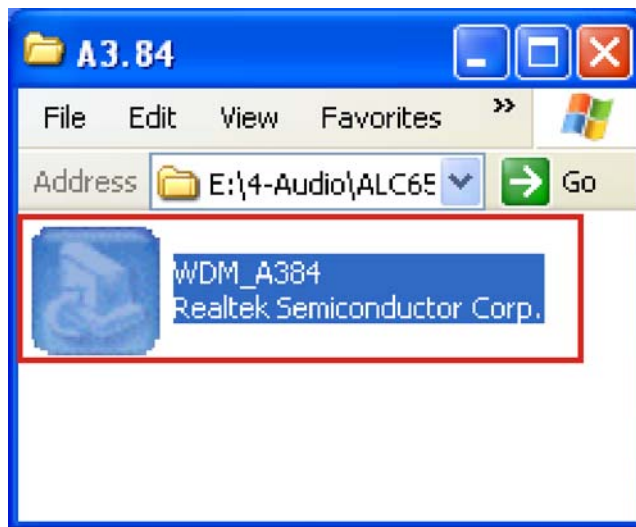

Figure 7-20: Audio Driver Options
Step 4: Browse to “E:\4-Audio\Windows\Windows 98Gold, 98se, Me, 2000, XP, 2003(32,64 bits)\A3.84” Double-click the installation file in **Figure 7-20**.